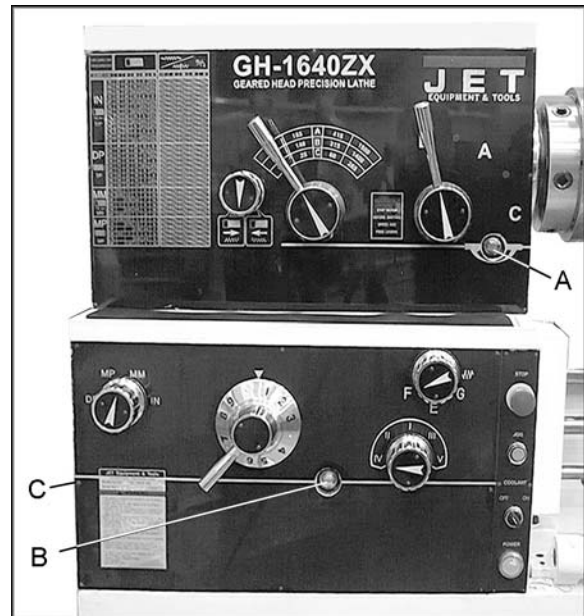

Figure 9
2. **Headstock** – Oil must be up to indicator mark in oil sight glass (A, Figure 9). Top off with SAE 20W. Fill by removing the plug on top of the headstock. To drain, remove drain plug on the left side of the headstock at the lower rear corner. Drain oil completely and clean out all metal shavings. Refill after the first month of operation. Then change the oil in the headstock every two months.
3. **Gearbox** – Oil must be up to indicator mark in oil sight glass (B, Figure 9). Top off with SAE 20W. To add oil to the gearbox, remove two screws on the top cover and remove cover. To drain, remove drain plug (C, Figure 9) on the left side of the gearbox. Drain oil completely and refill after the first three months of operation. Then change oil in the gearbox every six months.